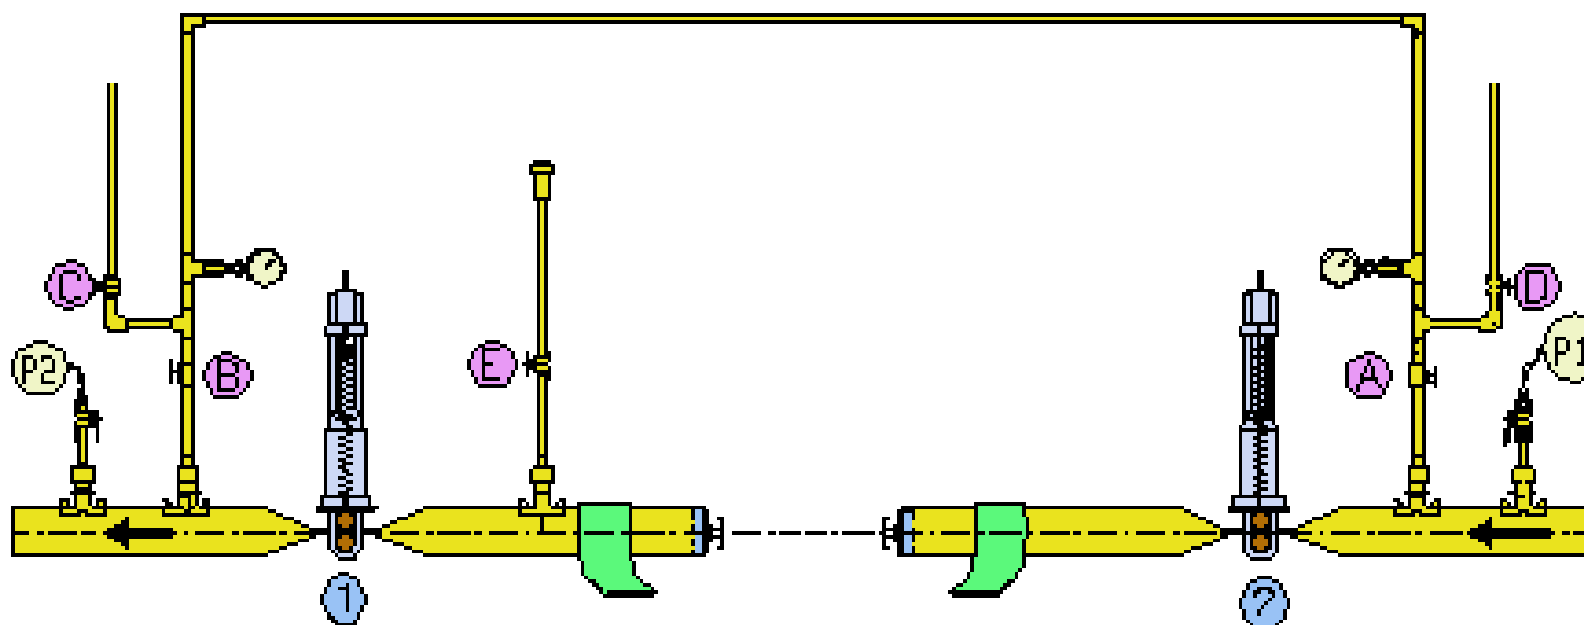

Figure 48- Installation of Expanding Stoppers
6. Install expanding stoppers whilst preparing fittings for installation see Figure 48.
- b) Check at the vent E see Figure 48 between the squeeze-offs to establish whether there is any gas passing.
- a) Position both squeeze-offs and a centre vent E (see Figure 48) at the required squeeze-off positions on one of the pipes. Set the stops to the pipe size and then squeeze-off.
- b) Check at vent E (see Figure 48) between the squeeze-off to establish whether there is any gas passing.
| <ul style="list-style-type: none"> c) If there is no gas passing, close vent E see Figure 48 and proceed to step f. below. d) If there is gas passing, release the upstream squeeze-off sufficiently to adjust stops to next smaller size. e) Squeeze-off the pipe at the upstream squeeze-off position. f) Remove the inner squeeze-off tool from the first pipe and reposition on the second pipe with the stop set to the pipe size, and then squeeze-off. g) If there is no gas passing (using original vent), continue with operation. h) If there is gas passing, release the second squeeze-off tool sufficiently to adjust stops to the next smaller size Squeeze-off the second pipe again using this stop setting, and continue with the operation. i) Squeeze-off the second pipe again using this stop setting, check at vent to establish if there is a let by and continue with the operation. j) Continue with operation if no gas is passing at vent. k) If the seal still cannot be made contact your Operational Manager. | <ul style="list-style-type: none"> 7. Check externally for signs of internal debris preventing an effective seal, with the squeeze-off compressed. 8. Look for signs of large debris at the pipe wall. 9. Re-apply squeeze-off and check vent E. 10. Continue with operation if no gas is passing at vent. 11. If the seal still cannot be made contact your Operational Manager. |
- b) Re apply squeeze-off and check vent E see Figure 48.